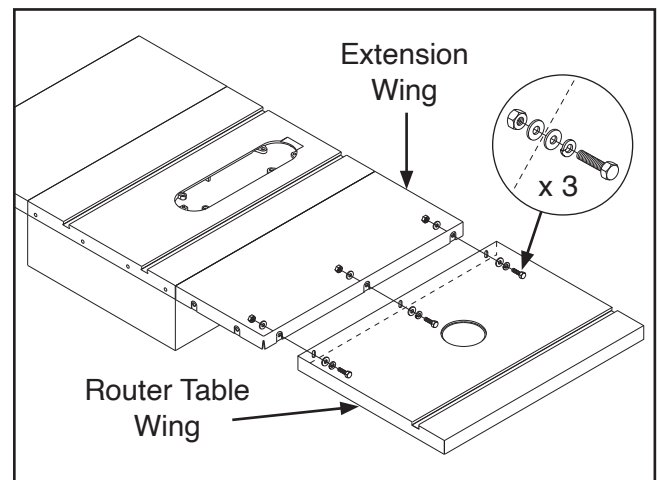

Figure 7. Locations of router table wing and fasteners.
7. While assistant holds router table wing, attach wing to table saw extension wing on right-hand side of saw using (3) M6-1 x 25 hex bolts, (3) 6mm lock washers, (6) 6mm flat washers, and (3) M6-1 hex nuts (see **Figure 7**). Hand-tighten for now.